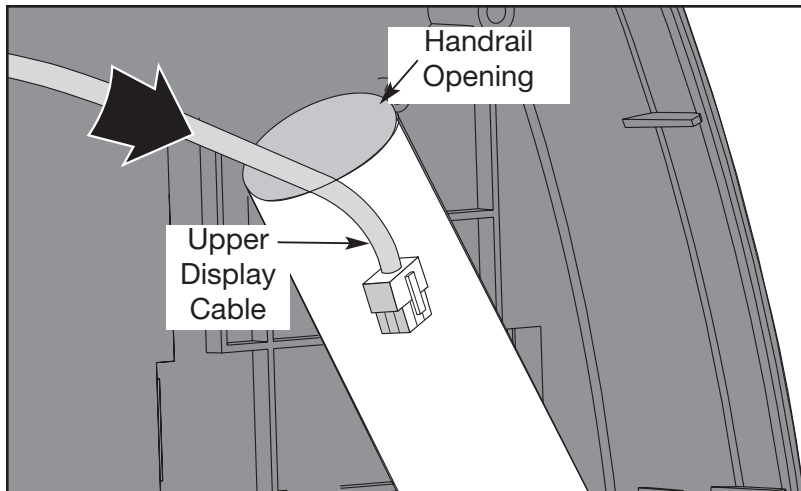

Figure 31
- A. Locate the end of the upper display cable with the single connector. See Figure 31.
B. Push the single connector down into the top handrail hole. See Figure 31.